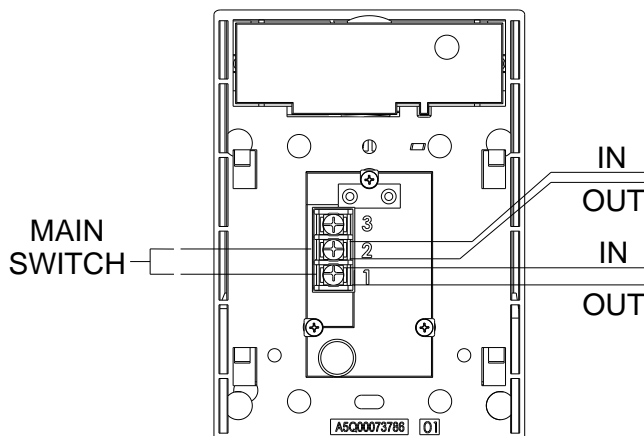

Figure 1
1. Recommended wire sizes: 18 AWG minimum, 14 AWG maximum. See Figure 1.
1. **Remove the cover.** Insert the Siemens T45 key provided into the key lock and rotate key 90 degrees counter-clockwise. Remove the key. The cover can now be removed.
2. Make all wiring connections as shown in the wiring diagram Figure 1.